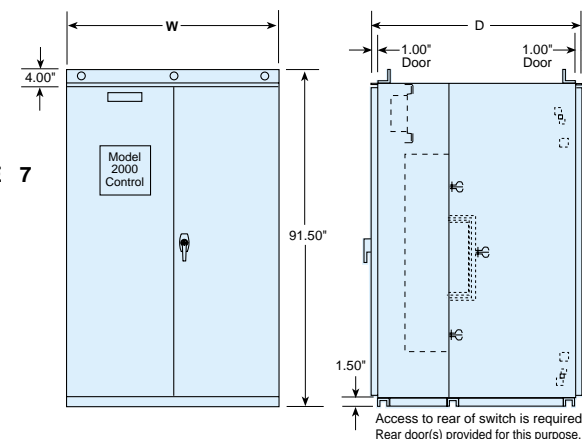

FIGURE 7
### 4000 AMP ENCLOSED TYPE (FIGURE 7)
- Double door configuration (See Figure 7).